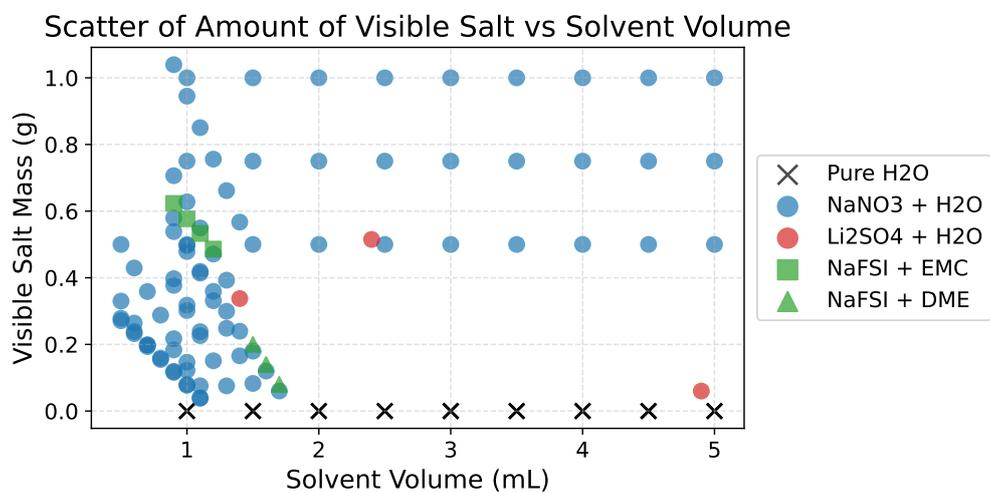

Figure S18: The distribution of liquid volume and solid mass of the data points in the dataset used for classification model training
- Fig. S18 shows the data point distribution for classification model training.